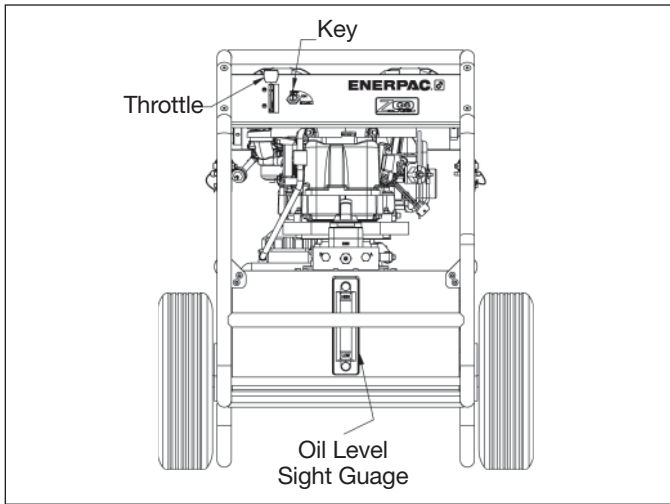

Figure 6
- c. Lower the throttle down to the detent position for maximum performance. The throttle may be lowered below the detent for idle. (See Figure 6.)